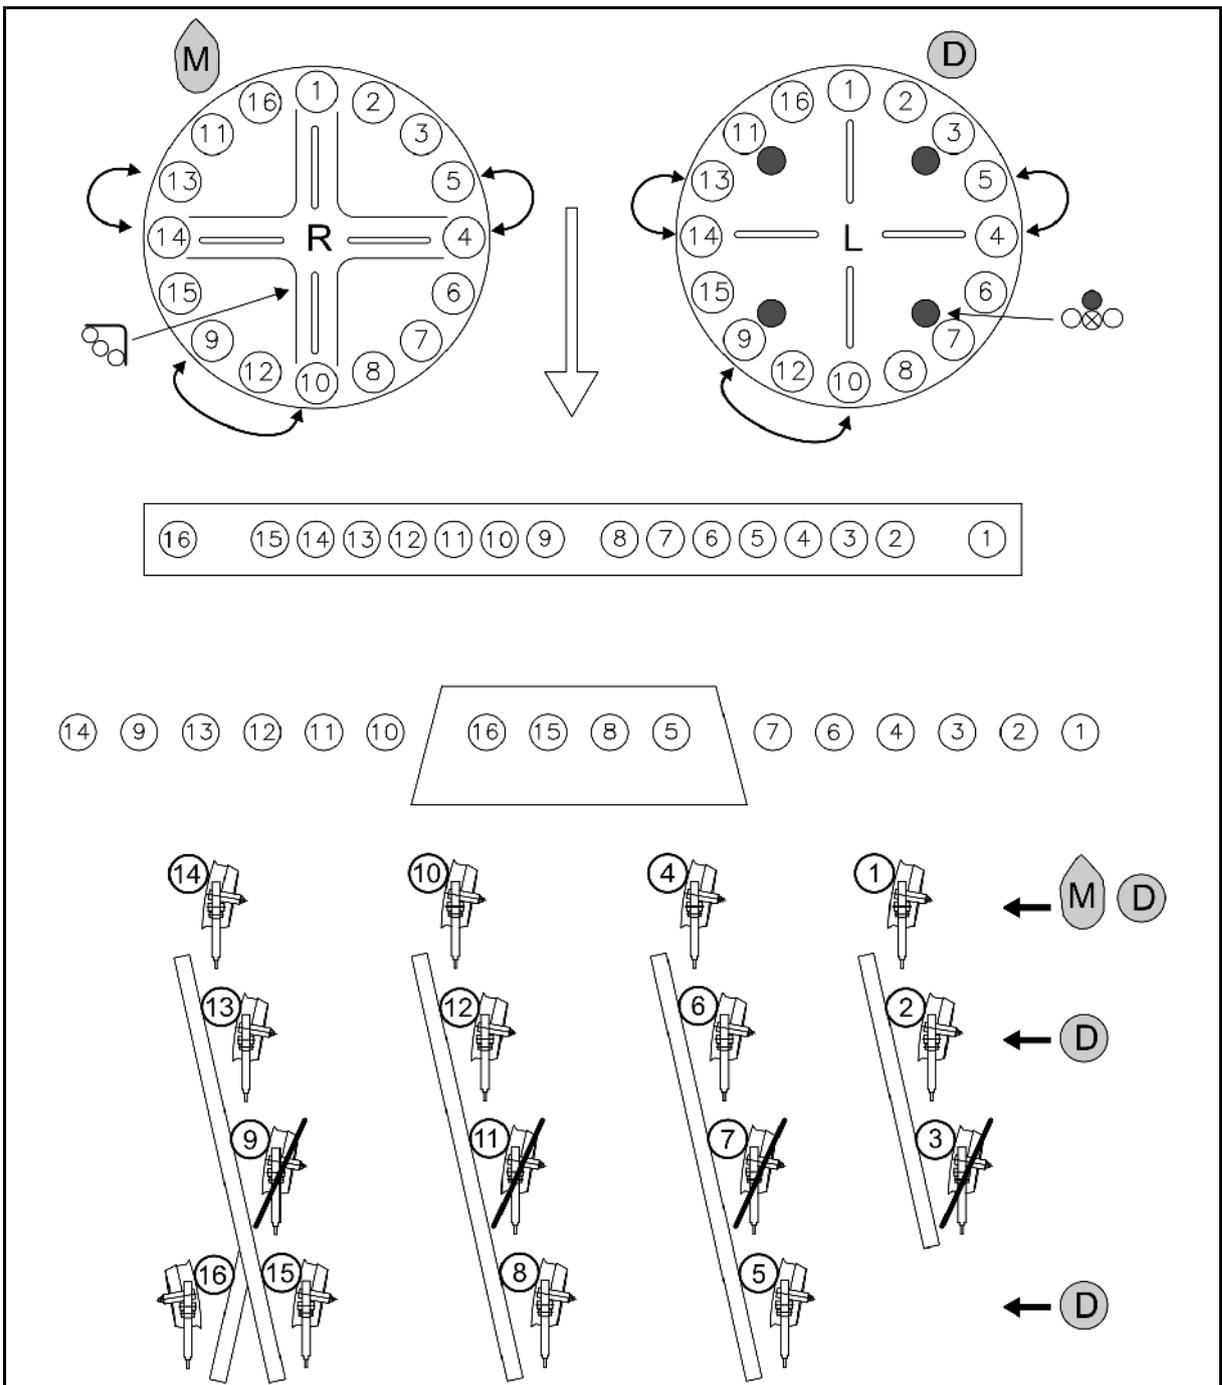

Fig. 39
- Maize M: Install the locking plates according to Fig. 39.
- Fertiliser D: Install the sealing plugs according to Fig. 39.